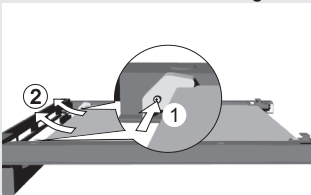

figure 3
- To remove the third inside glass (only with some models), undo the screws on the rubber on the left and right side (Figure 3). Remove the glass (in the direction of the arrow 2).